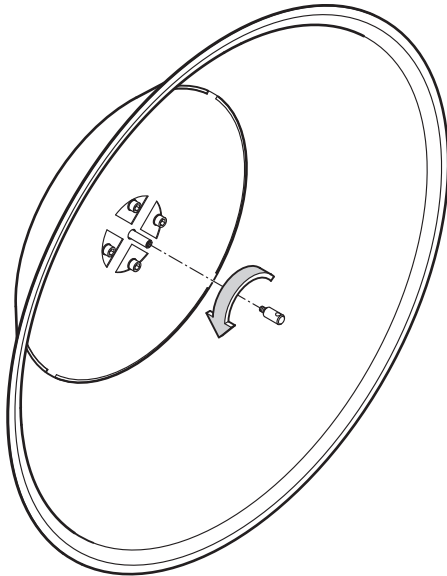

Fig. 28: Loosening the fixing nut to remove the baffle
- Loosen the holding nut for the distributor baffle and remove the baffle (see Fig. 28: unterhalb).